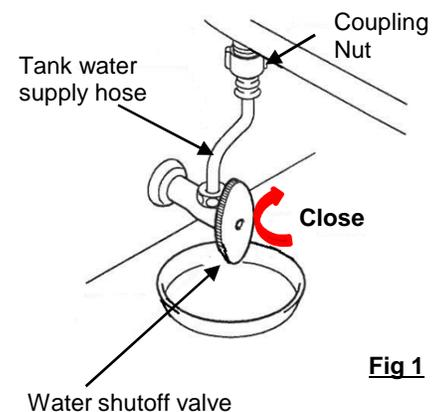

Fig 1
a) Install a Junction Valve (See Fig 1, 2)
- (I) Close the toilet water shutoff valve before starting installation.
- (II) Flush the toilet and make sure the water tank is empty.
- (IV) Place a bucket or similar container underneath the water shutoff valve.
- (V) Loosen the coupling nut and remove it.